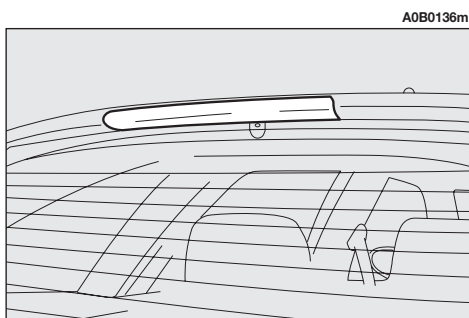

fig. 56
– Remove and replace the bulb concerned (spherical with bayonet coupling) pressing lightly and turning counterclockwise (**fig. 56**):
The additional stop light is built into the rear spoiler (**fig. 56**).